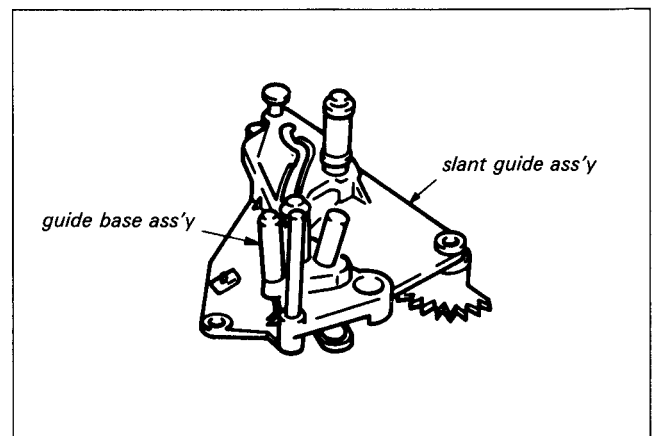

Fig. 7-28.
- 2) Set the slant guide assembly guide base assembly in unthreaded state (guide base assembly is on front panel side) and mount. (See Fig. 7-28.)